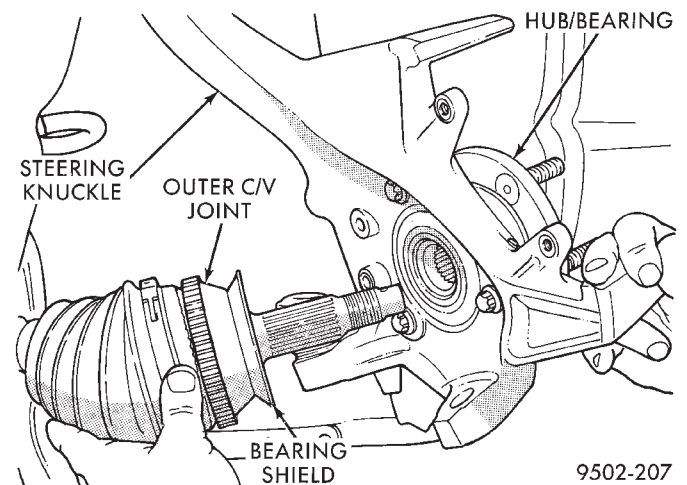

Fig. 11 Separating Steering Knuckle from Outer C/V Joint
(14) Pull steering knuckle assembly out and away from outer C/V joint of the driveshaft assembly (Fig. 11).